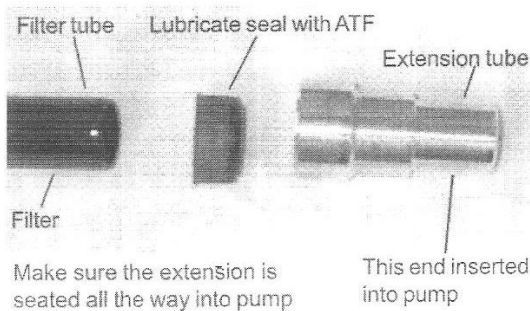

Figure 3
4. For the 4L60E & 4L65E transmission, install the supplied seal in the extension tube provided in the kit (See figure 3). Lubricate the seal with transmission fluid and place the extension tube onto the filter. Install the assembly back into the oil pump bore being careful not to damage the seal in the pump.